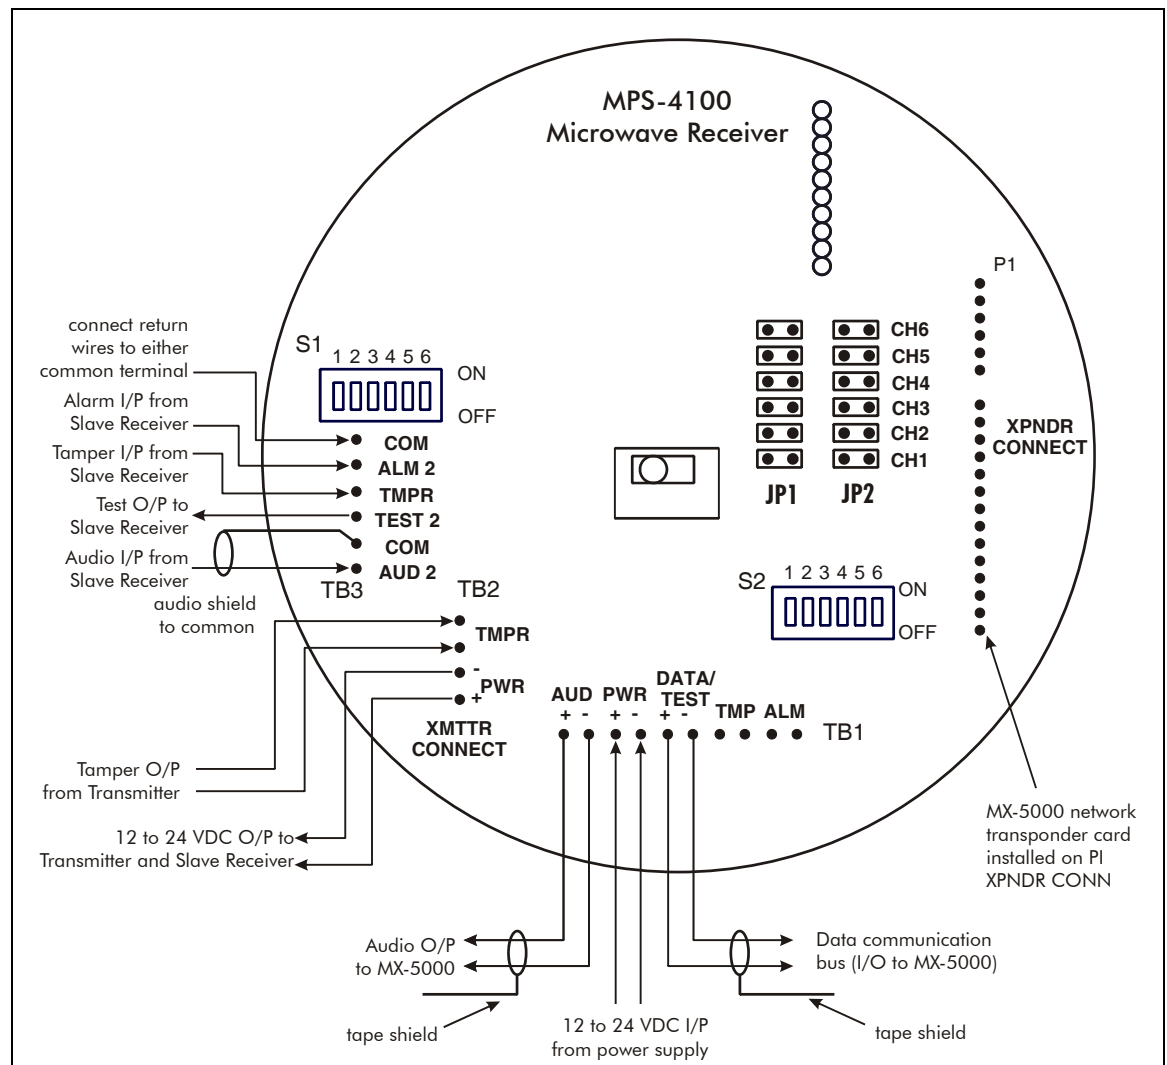

Figure 2-23 MPS-4100 Host Receiver connections
1. Connect the audio, power, and data pairs from the shielded interconnect cable to TB1 (see Figure 2-23). See the note below regarding shield terminations. **Observe Polarity.**